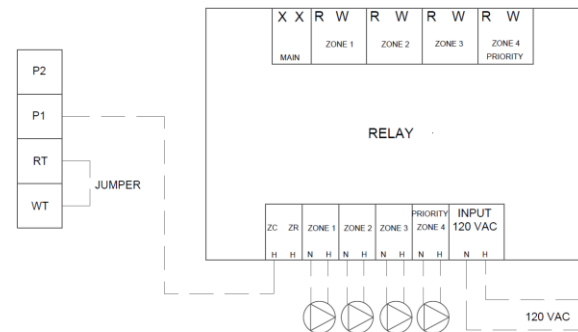

Figure 8 : Multiple pump system with all zones wired and free ZC ZR terminals (total current less than or equal to 5A)
For a multiple pump system with a switching relay box with all zones wired (Relay switch with ZC and ZR terminals, TACO type for example, see Figure 8):
- Install a pump relay (such as Honeywell RA832 or TACO SR501-4) near the auxiliary boiler. (see fig.8)
- Connect the “**TT**” of the auxiliary boiler on the “**XX**” relay RA832 terminals (see fig.5) or 6-5 of the relay TACO 501-4 (see fig.8)